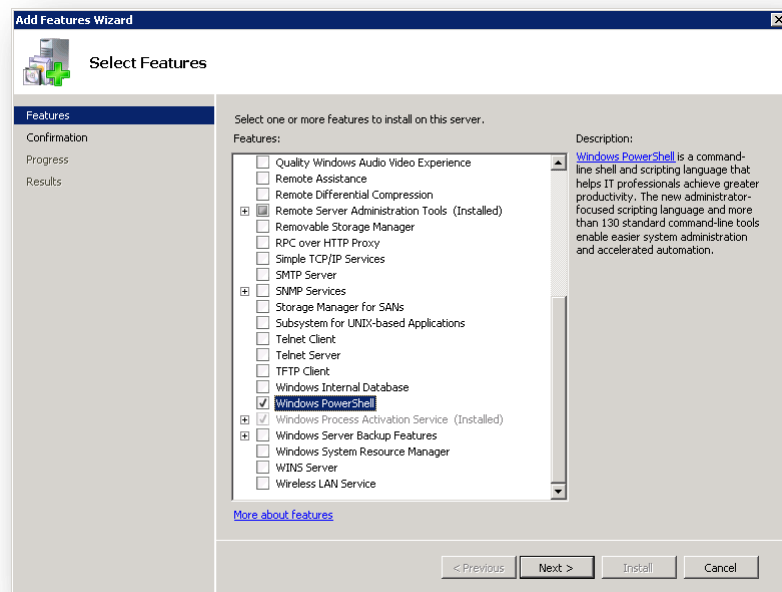

Figure 8 – Add Features Wizard (Select Features)
13. In the **Add Features Wizard**, check **Windows Power Shell**. See Figure 8.